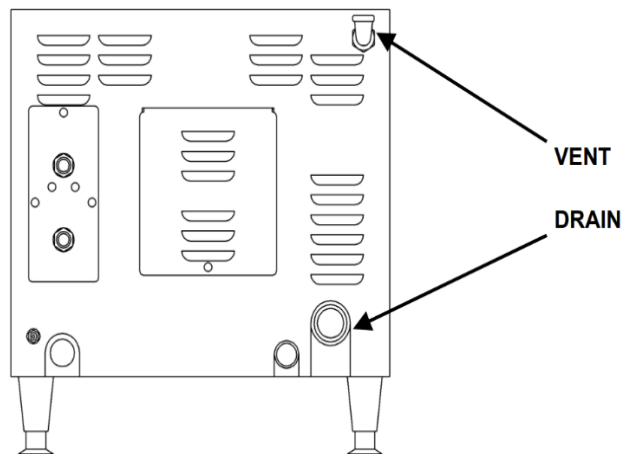

Figure 3-7 Steam Vent
1. Using pipe thread sealant (not provided), install the brass street elbow into the bulkhead fitting on the rear of the 22CET. See Figure 3-7.